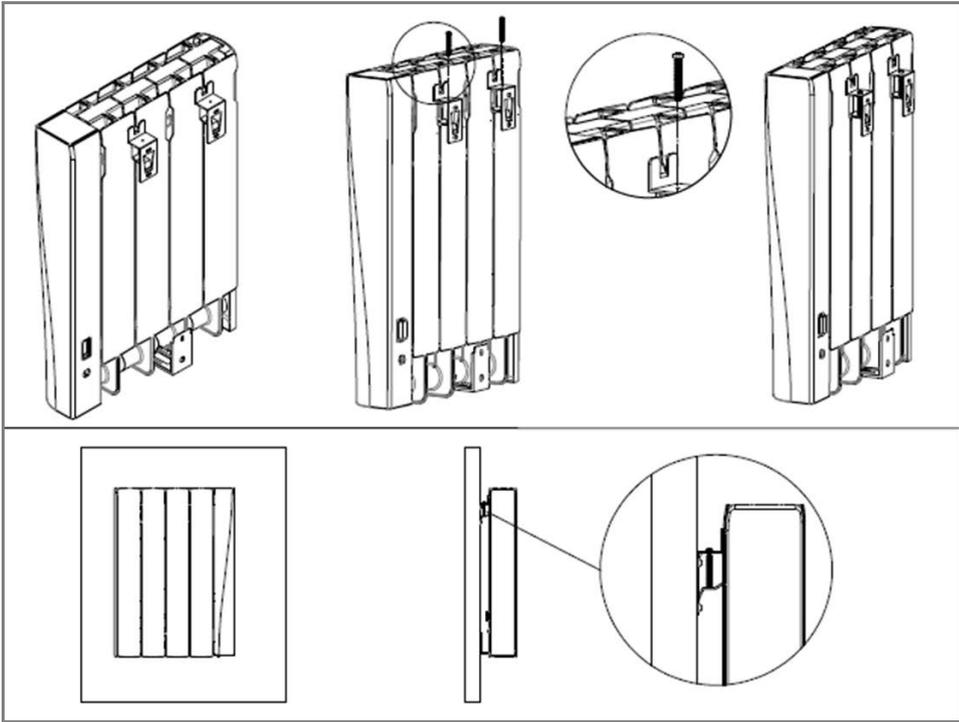

Figure 5 | Secure unit with locking screws
4. Secure the unit on the upper brackets by feeding the locking screws into the brackets as in **Figure 5**.